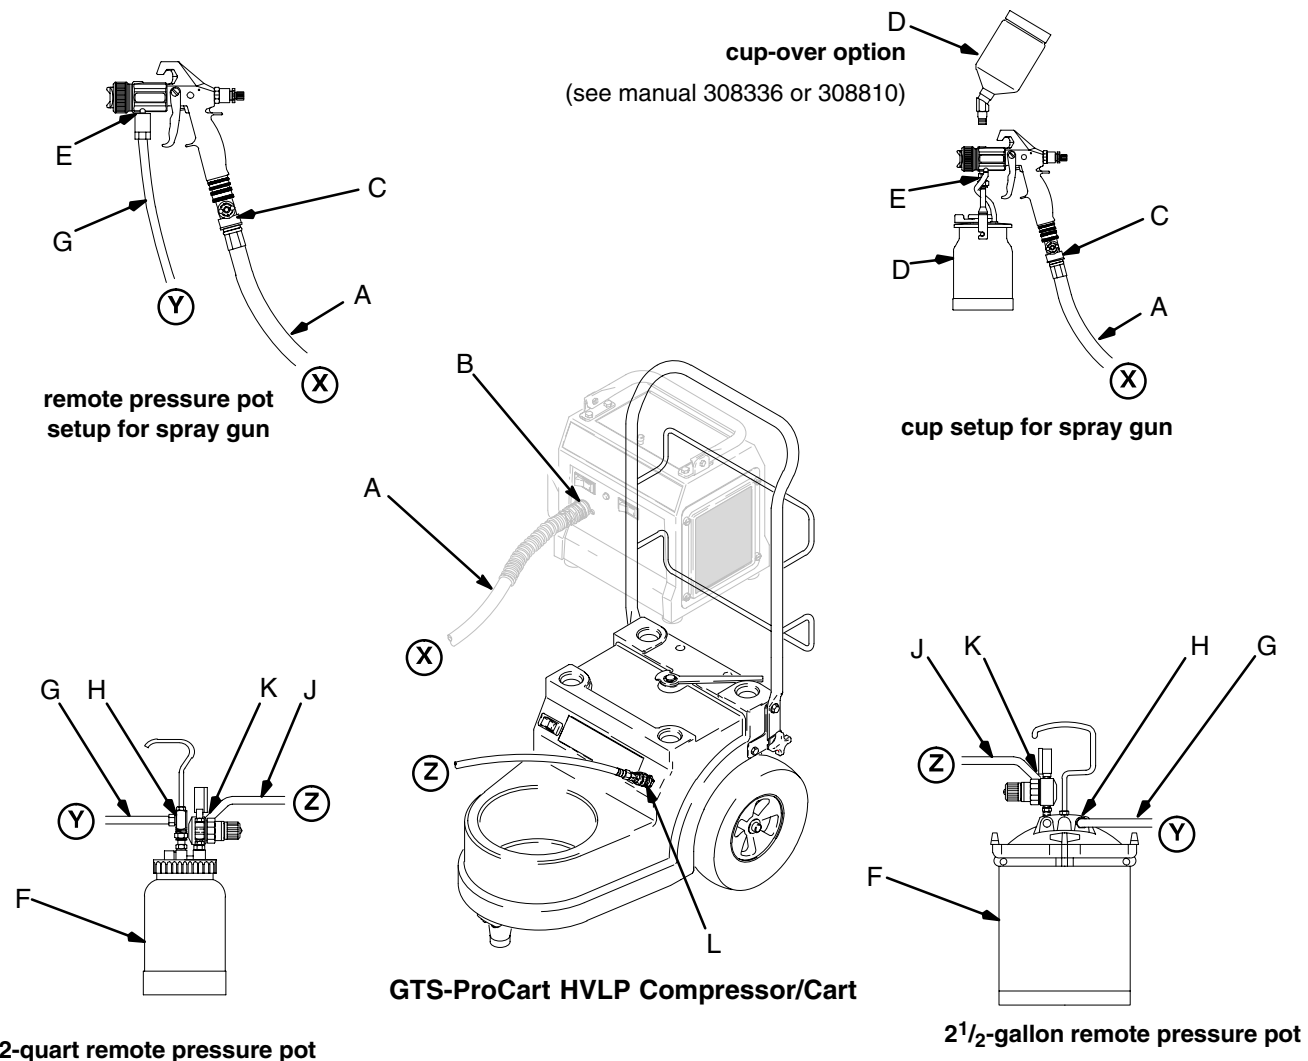

Fig. 4
See Fig. 4
- The circled letters in Fig. 4 indicate hose line connections.
1. Connect gun air supply hose (A) between turbine air outlet (B) and gun air inlet (C). DO NOT use wrench to tighten connections; hand tighten only.